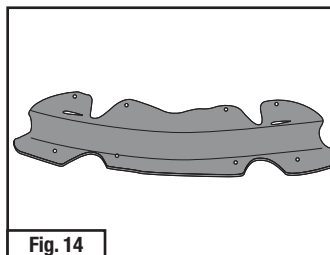
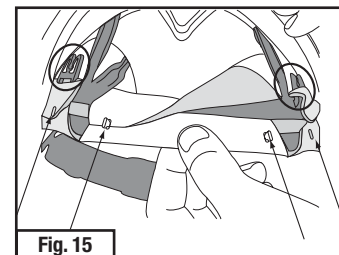

Fig. 14
Fig. 15
- Secure the new S-953 comfort pad (Fig. 14) to the suspension according to Fig. 15. The two long slots in the comfort pad hook over the large top hooks circled in Fig. 15. Use the smaller hooks on the suspension to fully secure the comfort pad.